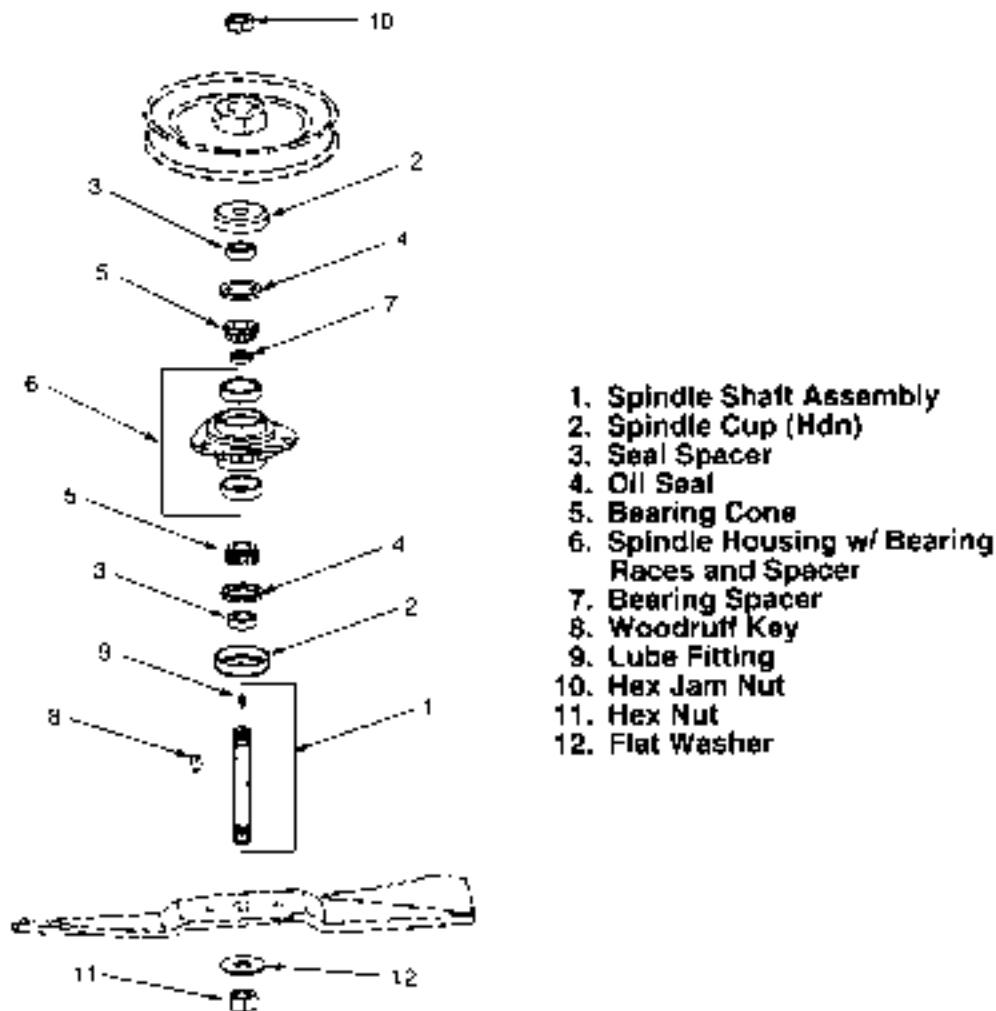

Figure 5-55. Blade Spindle Assembly (All Mower Decks).
1. Remove the spindle shaft assembly (1, Fig. 5-55) by withdrawing from the top of the spindle housing (6).
2. If not previously removed, remove the woodruff key (8) from the spindle shaft.
3. If necessary only, remove the lube fitting (9) by pulling from the spindle shaft. The lube fitting must be replaced if removed.
4. Remove the spindle cup (2) from the top of the spindle housing and pull the seal spacer (3) from the center of the oil seal (4).